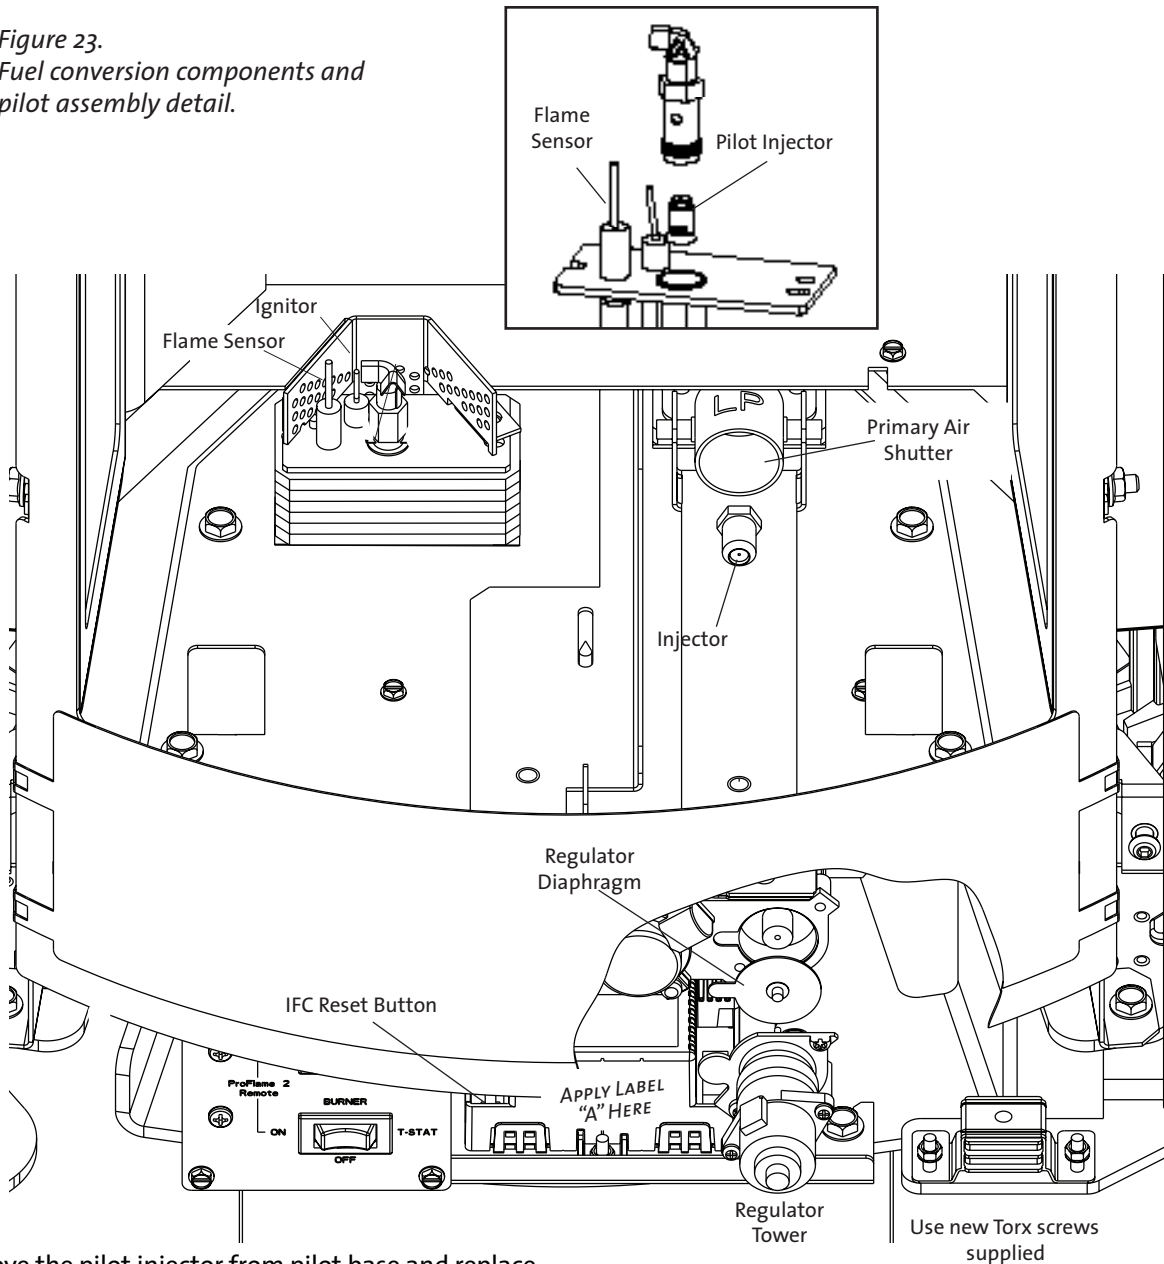

Figure 23.
9. Replace the variable regulator. Using a Torx T-20 screwdriver, remove the two specialty screws from the regulator tower on the front of the valve. Note: To help identify which screws to remove, refer to the new regulator in the kit. See fig. 23.